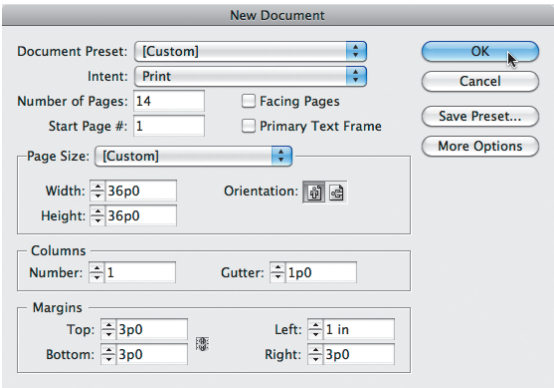

FIGURE 17.10 The New Document dialog settings in InDesign.
2. Match your settings to those in FIGURE 17.10. Set the Intent pull-down menu to Print. I included 14 pages (an extra page for the front and back covers) and used a width and height of six inches. You can type "6 in" into the fields, and InDesign will convert the units of measurement to picas. I unlocked the margins using the lock icon next to the Top and Bottom fields, and I increased the left margin to 1 inch as this is where the binding will take place (FIGURE 17.10).